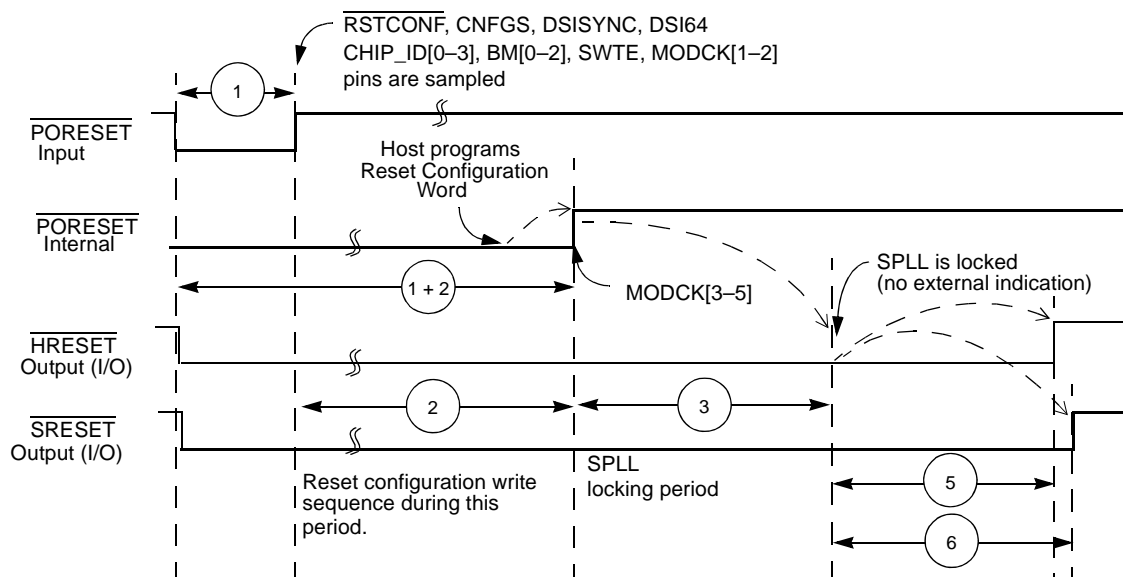

Figure 9. Timing Diagram for a Reset Configuration Write
**Table 12** and **Figure 9** describe the reset timing for a reset configuration write through the direct slave interface (DSI) or through the system bus.